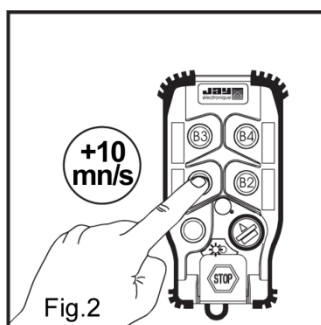

Fig.2
- 4- Select the new channel using channels B1 and B2 (Figs.2&3).
- 4- Select the new duration using buttons B1 and B2 (Fig.2&3).
- 4- Select the locked or unlocked state by pressing button B2 ; the selected mode is indicated on the indicator lights (Fig. 2&3).
4- Press the ON button to automatically program the identity code : the two indicator lights on the transmitter go off (Fig.2). The « identity code » information is copied from the electronic key to the transmitter memory.